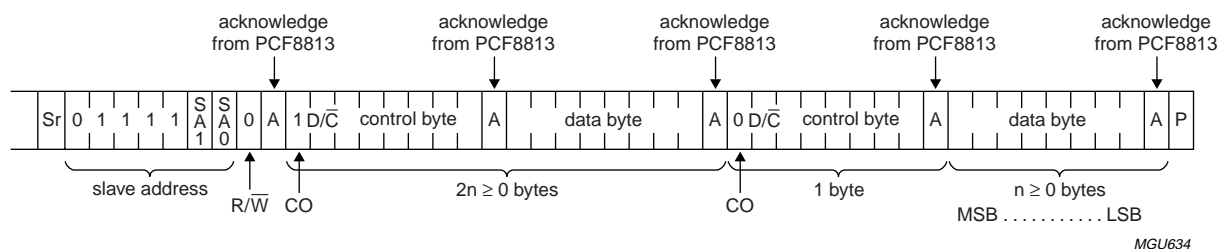

Fig.31 Master transmits in Hs-mode to slave receiver; write mode.
After acknowledgement of a write (W) cycle, one or more command words follow which define the status of the addressed slaves. A command word consists of a control byte, which defines CO and D/ \bar{C} , plus a data byte (see Fig.31 and Table 4).